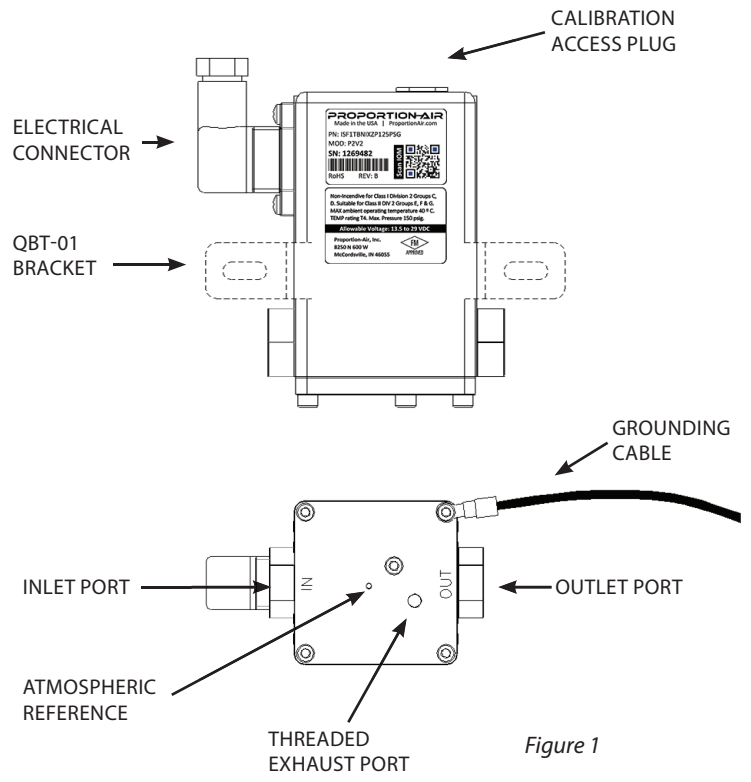
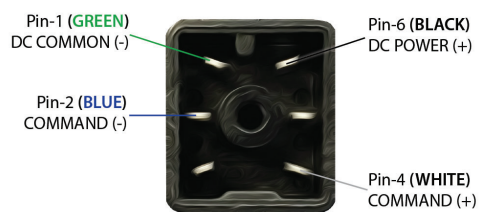

Figure 1
Figure 2
3. Connect supply pressure to the INLET PORT (I) not to exceed the rated supply pressure (see Figure 1 and Table 1).
4. Connect the OUTPUT PORT (O) to the device being controlled.
5. **If this is a vacuum or vacuum through positive pressure unit, connect vacuum supply to the EXHAUST PORT (E). Positive pressure is required on the inlet with vacuum units. FOR ANY QUESTIONS, PLEASE CALL THE FACTORY.**
3. Figure 1 shows the location of the ISF1 electrical connector and figure 2 shows the connector.
5. Connect ground wire to intrinsically safe ground (Figure 1).
3. Provide supply pressure to the INLET PORT of the ISF1 (see Figure 1). Make sure supply pressure does not exceed the rating for the valve (see Table 1).